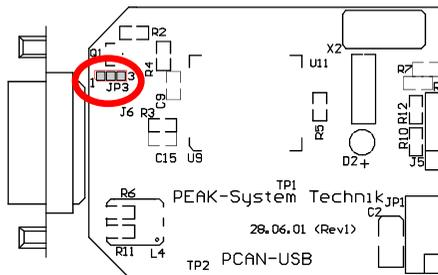
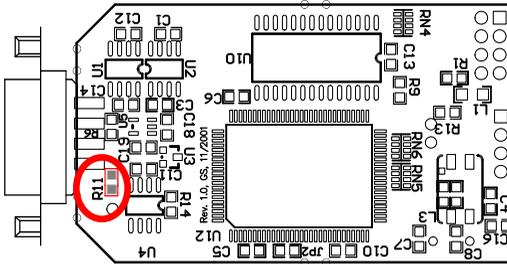

Figure 2: PCB PCAN-USB, JP3
Figure 3: PCB PCAN-USB ISO, R11
2. Set the solder bridge on the PCB of the PCAN-USB adapter according to the desired function. Figure 2 and Figure 3 show the position on each PCB; the table below contains the possible settings.